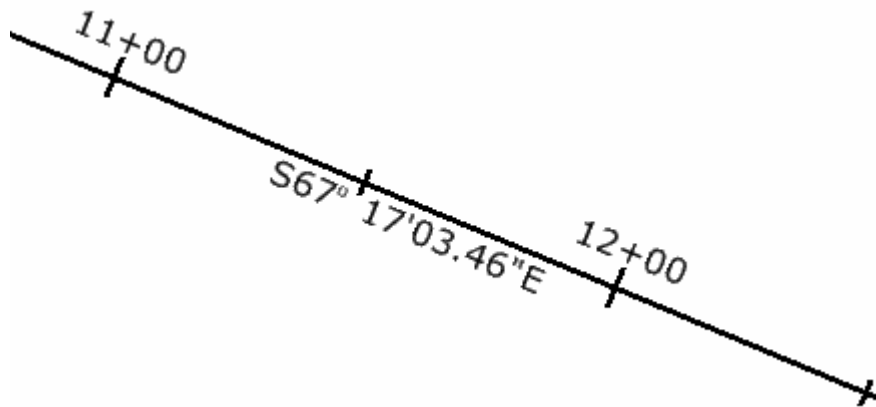

Figure 4-9 MicroStation View of InRoads Generated Bearings
- C. Click **Apply** to add the bearings and Click **CLOSE**. Figure 4-9 shows the InRoads generated bearing.